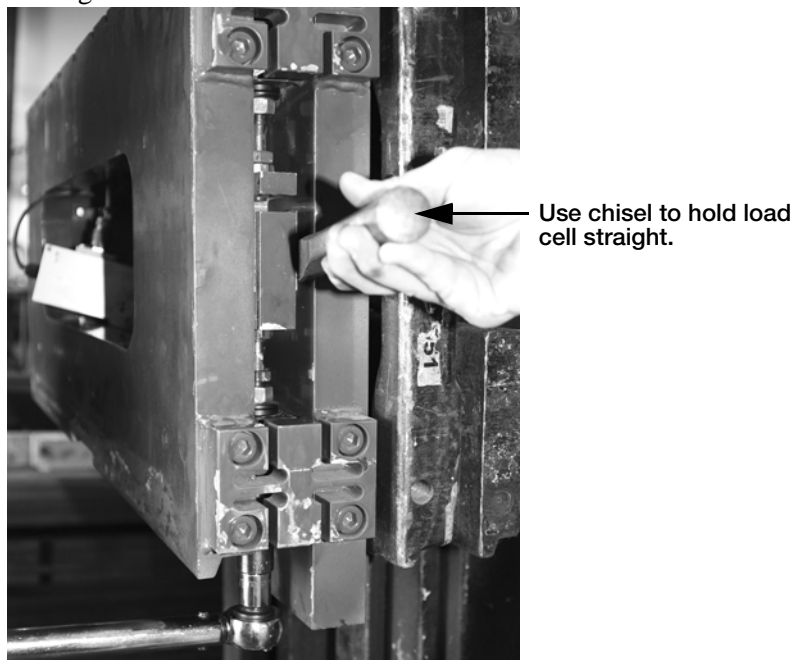

Figure 6-9. Use Chisel to Hold the Load Cell in Straight
23. Tighten the jam nuts on the top and bottom of the load cell, making sure they are tight, and load cell is completely vertical with the scale. To accomplish this, you can use a pry bar or chisel to hold the cell straight as illustrated in Figure 6-9.